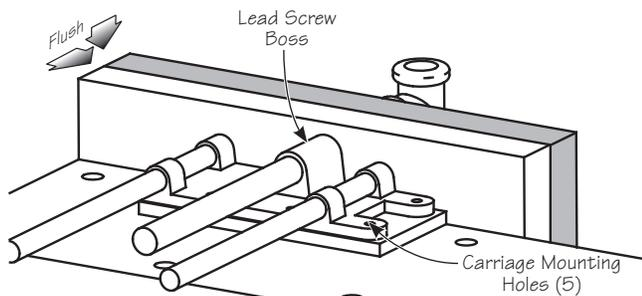

Figure 9: Mounting vise carriage, front jaw and front assembly.
9. Place the carriage and any spacer(s), on the underside of the bench, with the lead screw boss toward the rear jaw as shown in **Figure 9**.